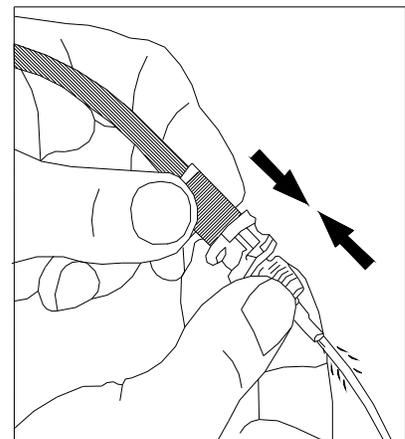

Figure 36
Hold the flush valve in one hand and aim the outlet into a container. This container should be labeled “Waste” and the contents disposed of according to local government regulations. Squeeze the flush valve open and hold until clear fluid is discharged. Release the valve to stop the fluid flow, see **Figure 36**.
- A. For a Standard DOD or 7-valve 8000 series print heads, connect the cleaner line to the “Ink/Cleaner In” connector. Hold the flush valve in one hand and aim the outlet into a container. This container should be labeled “Waste” and the contents disposed of according to local government regulations. Squeeze the flush valve open and hold until clear fluid is discharged. Release the valve to stop the fluid flow, see **Figure 36**.